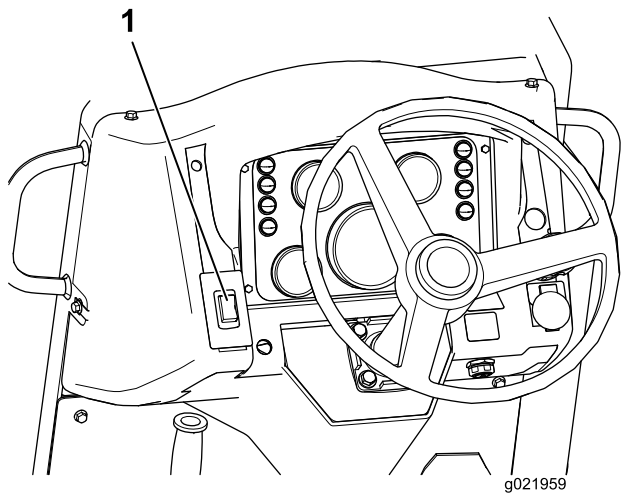

Figure 25
- Push the parking brake switch (Figure 25) up to apply the parking brake.